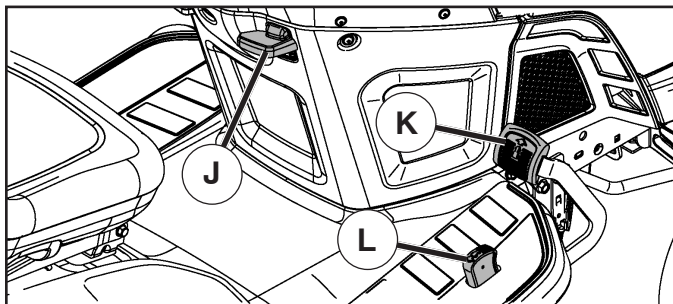

Fig. 8
TO MOVE FORWARD AND BACKWARD (See Fig. 8)
TO USE CRUISE CONTROL (J) (See Fig. 8)